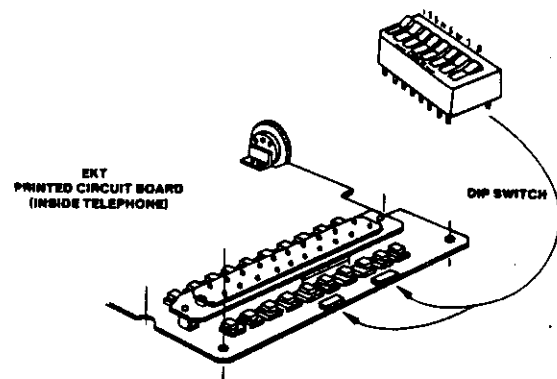

FIGURE 10 — LOCATION OF DIP SWITCHES ON EKT PCB
5.5 As shown in Figure 10, the two dip switches are located at the right edge of the EKT PCB. Each dipswitch contains eight rockers. Each rocker on a dip switch is numbered from 1 to 8. One side of the switch is labeled "OPEN" and the other (unlabeled) side will be referred to as the "CLOSED" side of the switch.